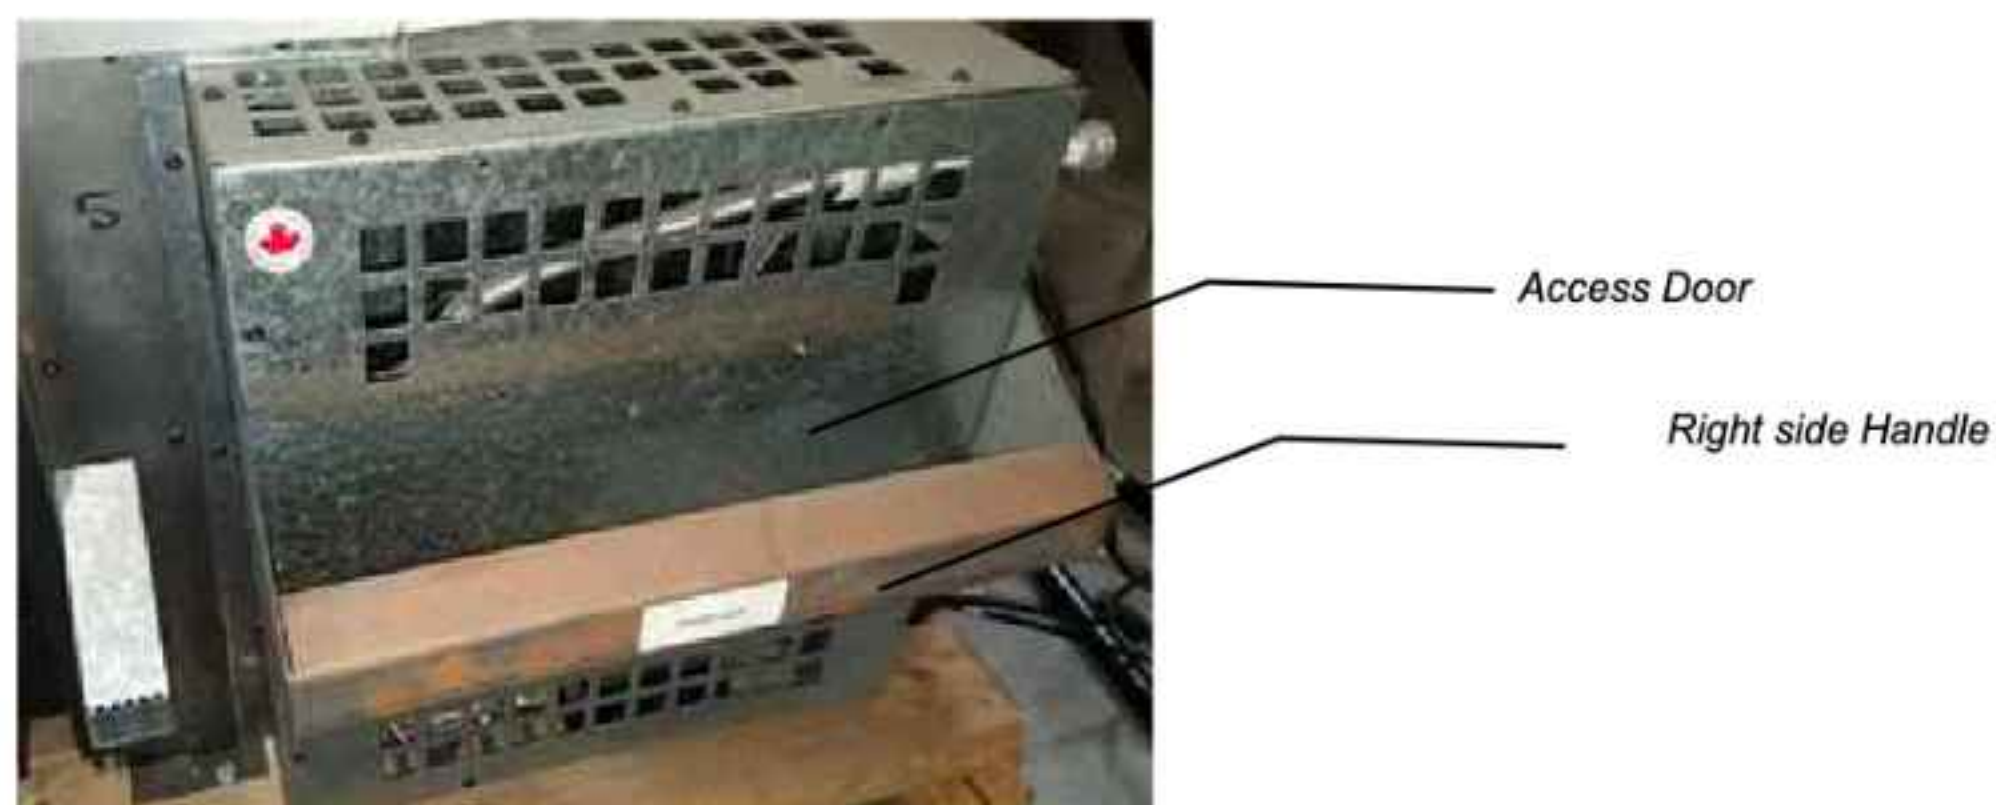

Figure 13: Remove Right Side Handle & Outside Access Door
16. From the outside of the unit - remove the right side handle (6 screws) and access cover (10 screws) shown in Figure 13.